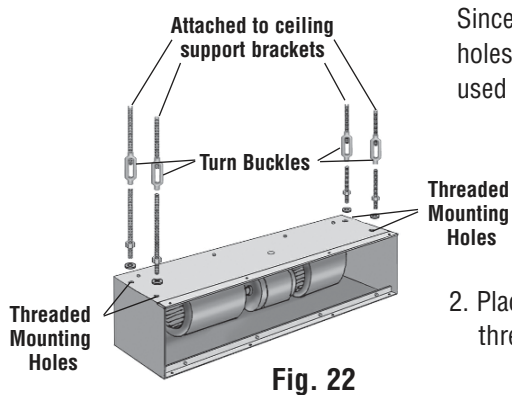

Fig. 22
3. Screw the top rods into the ceiling brackets (supplied by others). (See Fig. 22)